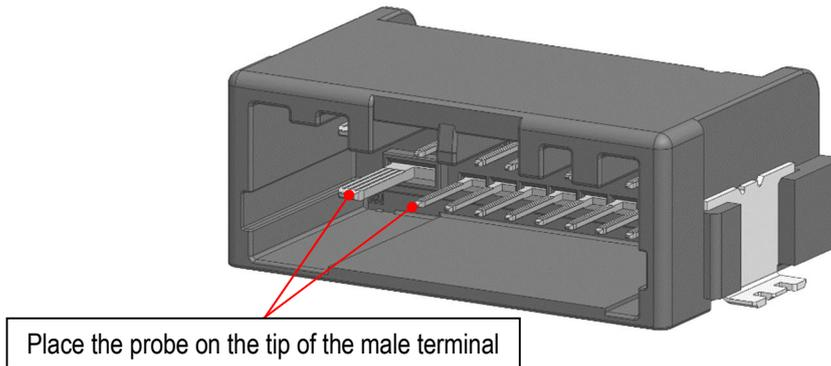

Fig 43. Conductivity test for male terminals (contacts)
If load exceeds 0.5N, male terminal may be damaged or deformed. (see Fig. 43)
② To test electrical conductivity of female connector, place a probe pin at prescribed point (0.5N MAX.) on outside of the female terminal.(see Fig.43)
③ Do not insert a probe pin into female terminal box, as this may damage the female terminal spring.